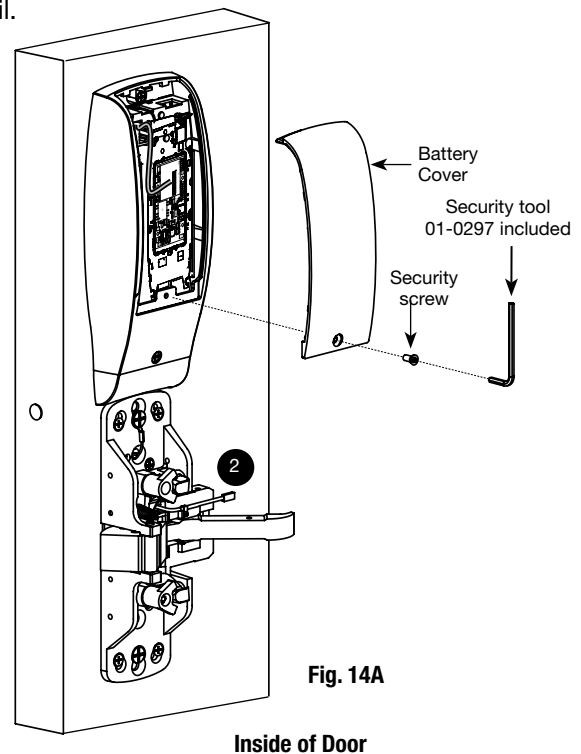

Fig. 14A
1. Attach cover to inside escutcheon, making sure to line up tabs with retaining slots in cover. Secure with the security screw and tool. (Fig. 14A and 14B).